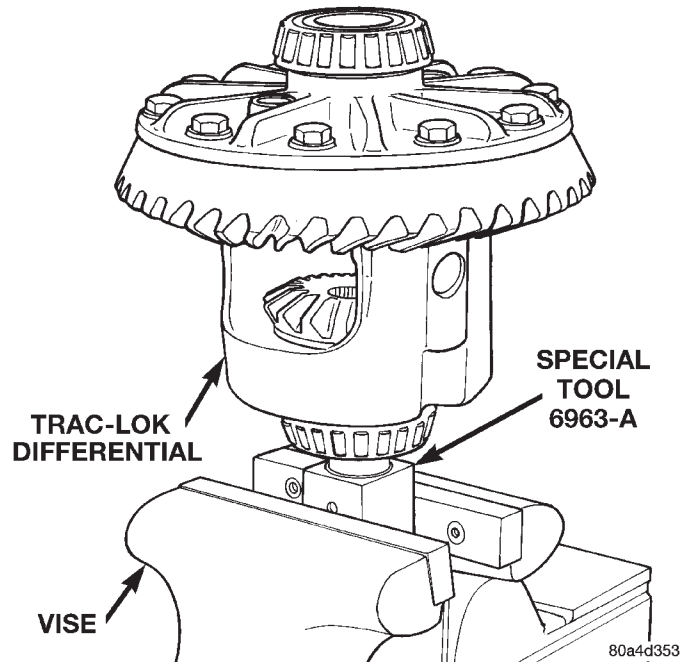
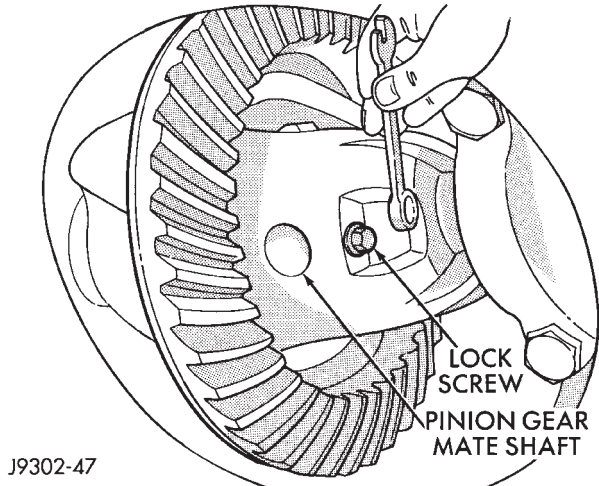

Fig. 45 Differential Case Holding Tool
Fig. 46 Mate Shaft Lock Screw
- (1) Clamp Side Gear Holding Tool 6963-A in a vise.
- (2) Position the differential case on Side Gear Holding Tool 6963-A (Fig. 45).
- (3) Remove ring gear, if necessary. Ring gear removal is necessary only if the ring gear is to be replaced. The Trac-Lok differential can be serviced with the ring gear installed.
- (4) Remove the pinion gear mate shaft lock screw (Fig. 46).